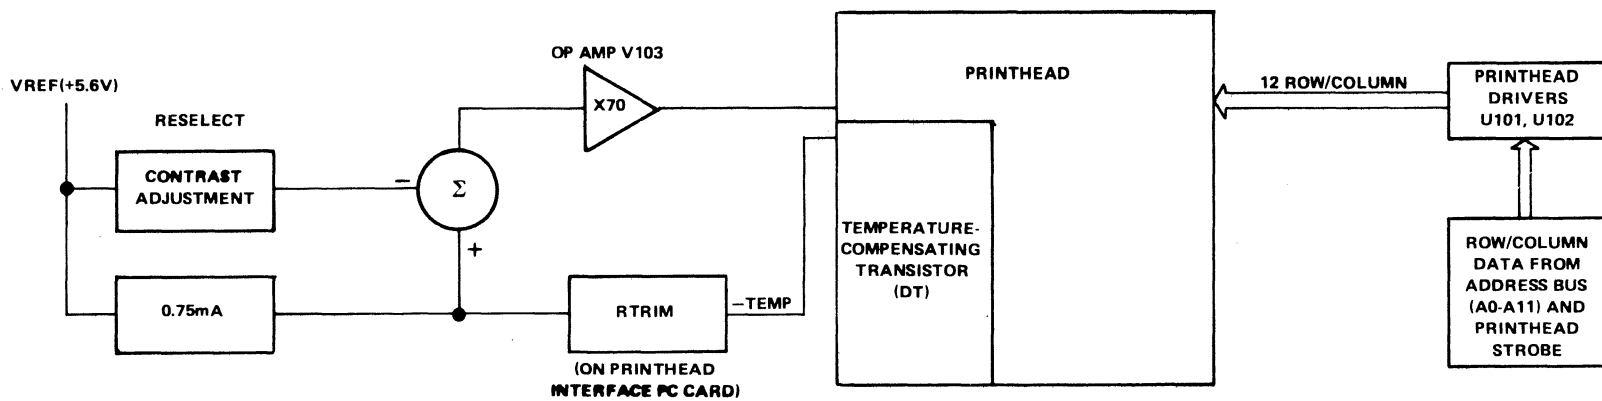

Figure 4-10. Printhead System Block Diagram
4.5.5 PRINthead SYSTEM. The printhead consists of a five by seven matrix of 35 heating elements and a transistor mounted on a monolithic chip. Mounted on a heatsink, the chip is connected to the printhead interface printed circuit card with a flexible cable. Mounted on the printhead interface printed circuit card are two selected resistors (RTRIM and R3) which control the characteristics of the temperature compensation circuit so that its operation is optimum for each individual printhead. A block diagram of the printhead system is shown in figure 4-10.